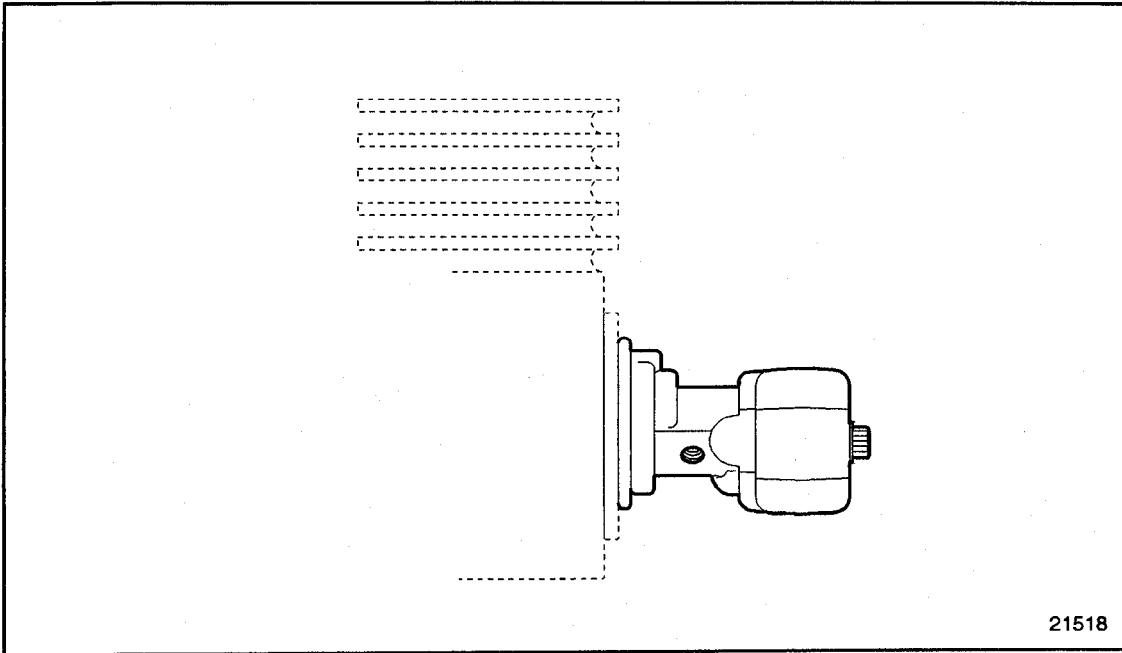

Figure 23-1 Fuel Pump Flange Drain Hole Location
1. Insert a piece of wire through the fuel pump flange drain hole; see Figure 23-1.